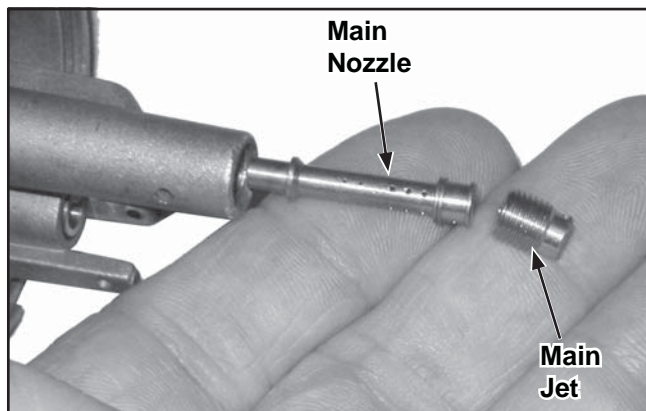

Figure 5-13. Main Jet Removal.
3. Use an appropriate size flat screwdriver, and carefully remove the main jet from the carburetor. After the main jet has been removed, the main nozzle can be taken out through the bottom of the main tower. Save the parts for cleaning and reuse. See Figure 5-13.
11. Install the main nozzle and the main jet into the tower of the carburetor body. See Figure 5-13.